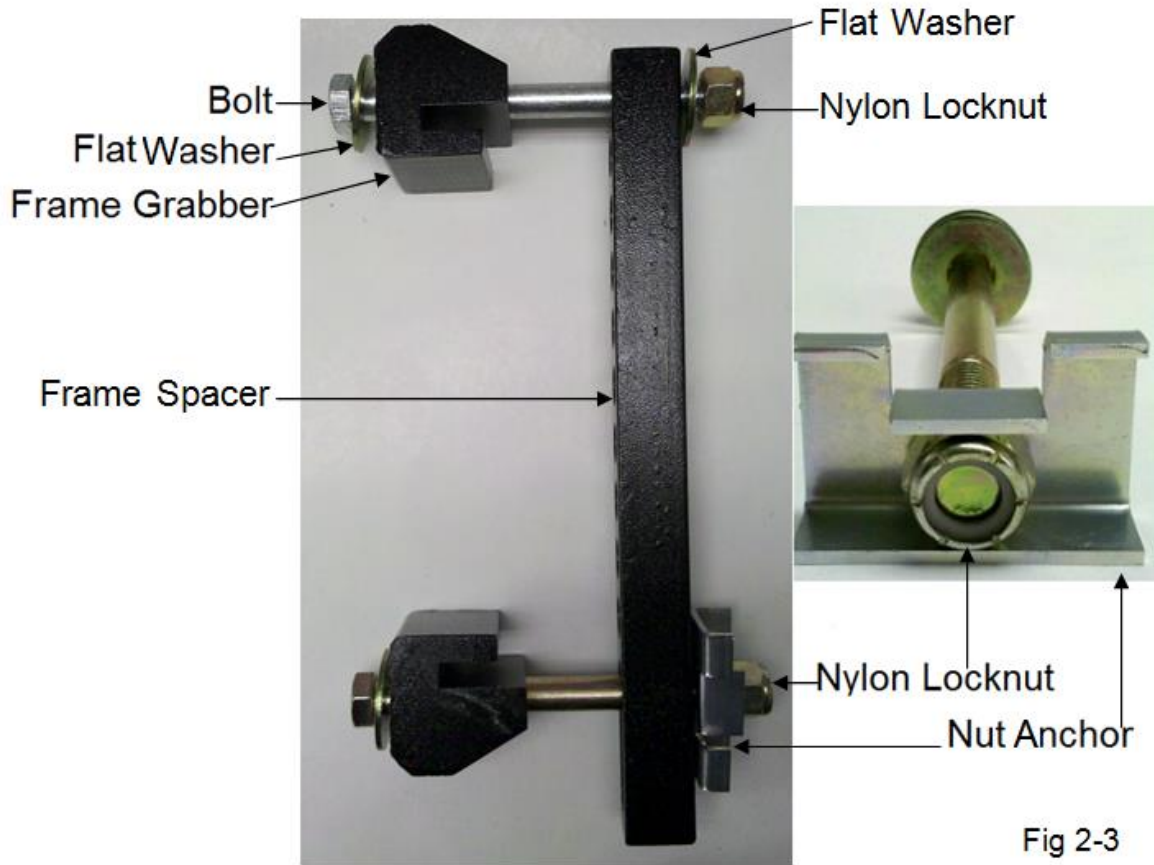

Fig 2-3
The nut anchors (Fig 2-3) are designed to hold the two bottom lock nuts in position due to the lack of space for tools. The anchors must be installed on the inside of the unit so that
3. Pass the bolts through the components and hardware as shown in figure 2-3. If the nylon nuts have been tightened and removed they must be replaced. Do not lubricate the threads in any way.